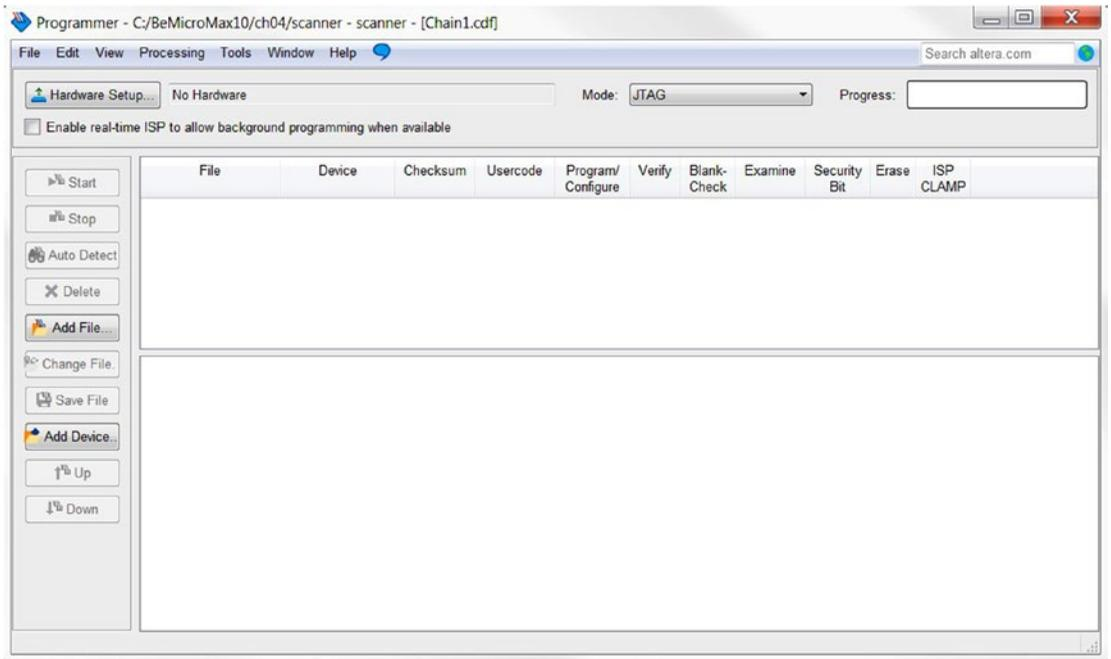
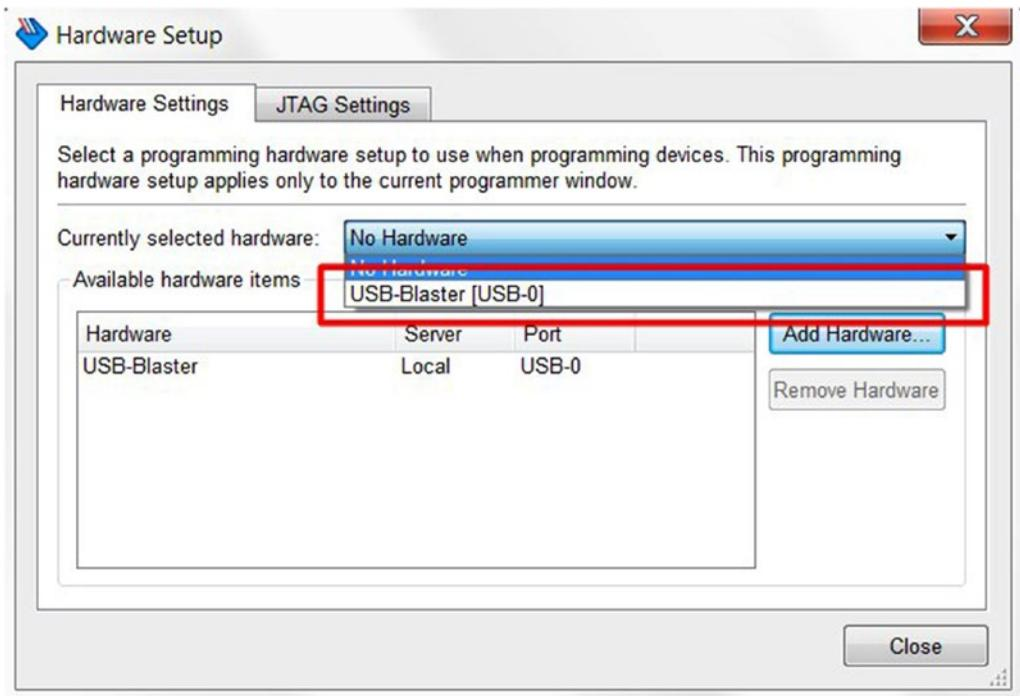

Figure 4-56. Programmer
Figure 4-57. Programmer—Hardware setup
- Click the **Hardware Setup...** icon in the Programmer (Figure 4-56). In the Hardware Setup dialog select **USB-Blaster [USB-0]** and click **Close** (Figure 4-57).